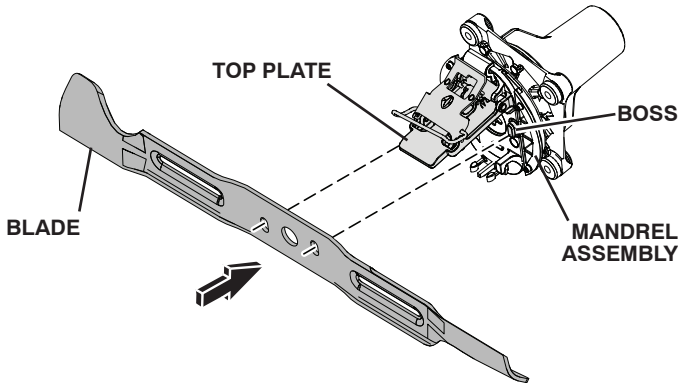

Fig. 38
- Align bosses and insert blade. (See Fig. 38)